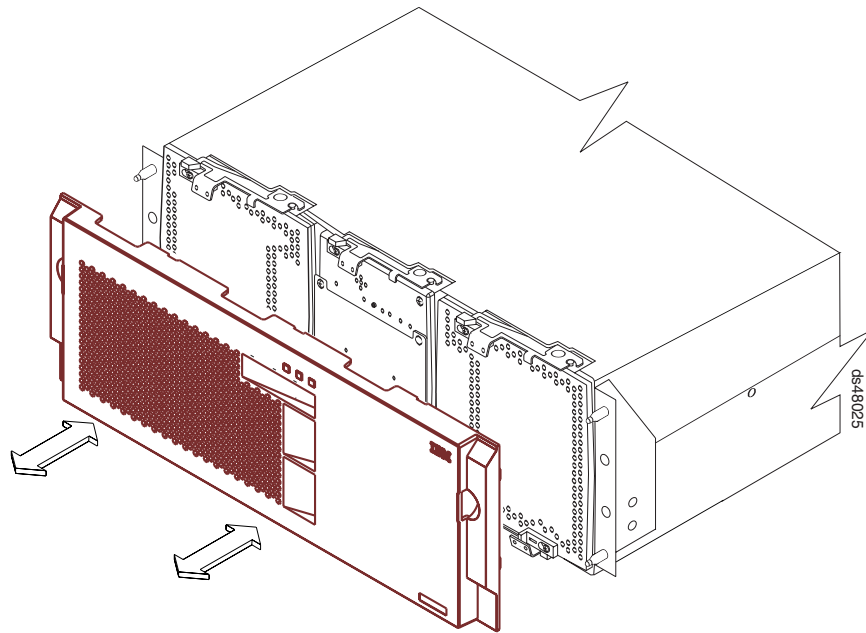

Figure 24. Removing the front bezel
4. Attach the DS4800 front bezel. Install the front bezel by aligning the pins on the storage subsystem chassis with the spring-steel retainers on the cover, and then press the cover toward the chassis until the pins snap into place. Figure 24 shows how to install the front bezel in the storage subsystem.